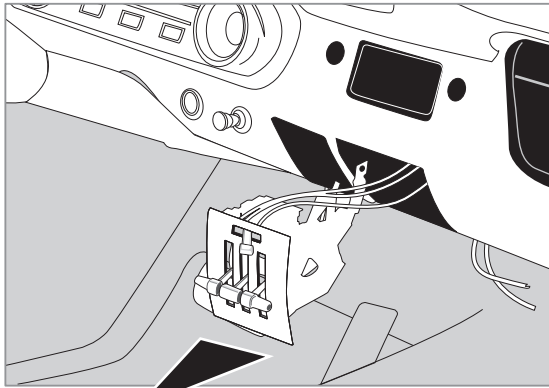

FIGURE 8
- 1) On the back side of the control head there are two nuts and retaining clips. Remove and retain. Remove the control head assembly (see figure 8).